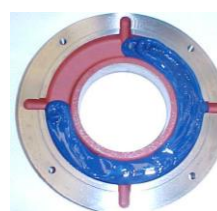

Figure 7.5: Outer bearing cap
- Fill up to  $\frac{3}{4}$  of the inner and outer bearing cap deposits with the recommended grease (Figure 7.5) and lubricate the rolling bearing with enough grease before assembling it;
When the bearing is opened, inject the new grease through the grease nipple to expel the old grease found in the grease inlet tube, and apply the new grease in the rolling bearing, to the inner and outer rings, filling 3/4 of the empty spaces, as shown in Figure 7.5. In case of double bearings (ball bearing + roller bearing), also fill 3/4 of the empty spaces between the intermediate rings;